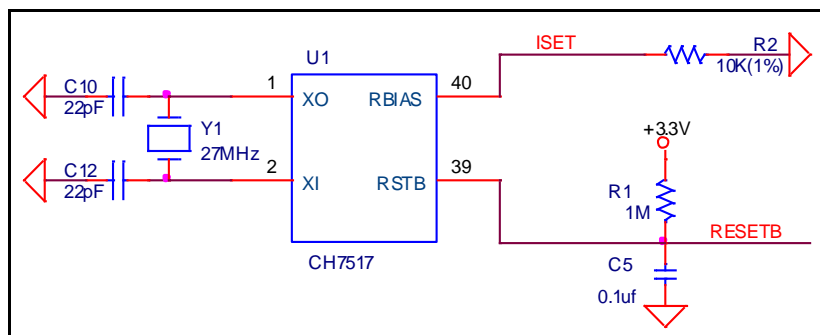

Figure 4: RBIAS Pin Connection and General Control
1. The RB signal can be generated by on board Resistor and Capacitor delay, which can be refer to Figure 4.
This pin sets the Band-gap Bias Voltage. A 10 K-Ohm, 1% tolerance resistor should be connected between RBIAS and GND as shown in **Figure 4**. A smaller resistance will create less Band-gap Bias voltage. This resistor should be placed with short and wide traces as near as possible to CH7517. For optimum performance, this signal should not overlay the analog power or analog output signals.
The crystal load capacitance, CL, is usually specified in the crystal spec from the vendor. As an example to show the load capacitors, **Figure 4** shows a reference design for crystal circuit design.